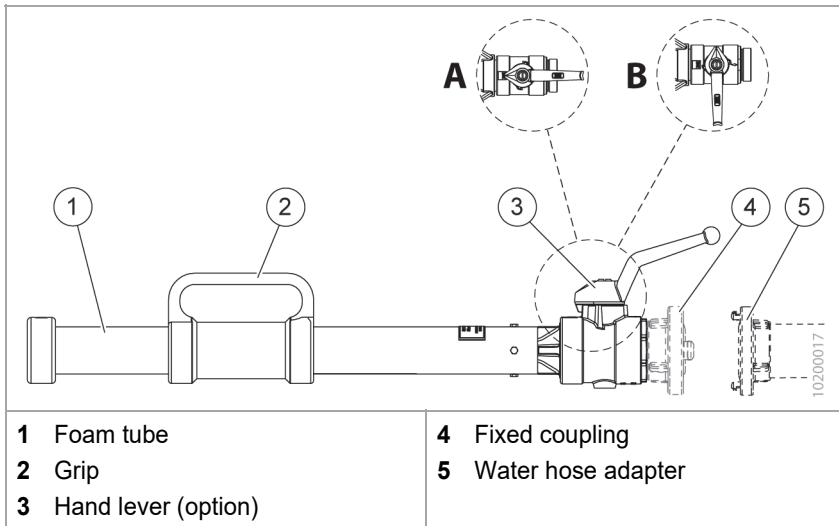

Fig. 2 Handling
- ✓ The hand lever is closed (Fig. 2/B).
1. By hand or with the use of a coupling spanner, attach the coupling of the water hose (Fig. 2/5) to the coupling on the foam nozzle (Fig. 2/4).
2. Point the foam nozzle (Fig. 2/1) at the source of fire.
2. Point the foam nozzle (Fig. 2/1) at the source of fire
4. Open the foam nozzle by turning the hand lever (Fig. 2/3) longitudinal to the direction of flow of the water (Fig. 2/A).
5. Close the hand lever (Fig. 2/3) crossways to the flow direction of the water.
5. Shut off the water supply and, by hand or with the use of a coupling spanner, detach the coupling of the water hose (Fig. 2/5) from the fixed coupling on the foam nozzle (Fig. 2/4).